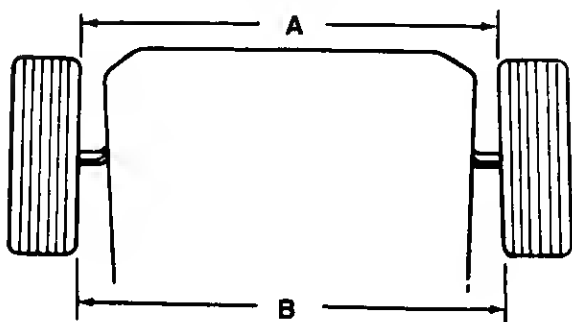

FIGURE 9.
2. Adjust the tie rod in or out until the wheels toe-in approximately 1/8" (Dimension "A" should be approximately 1/8" less than dimension "B"). See figure 9.